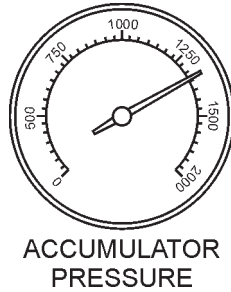

**Figure 28. Throttle Control Knob (RPM Adjust)**
- B. Push the outermost button (coarse adjustment) inward, then pull outward until engine RPM reaches desired speed (Figure 28).
- C. Turn the unlocking knob (figure 28) clockwise to lock engine RPM in place.